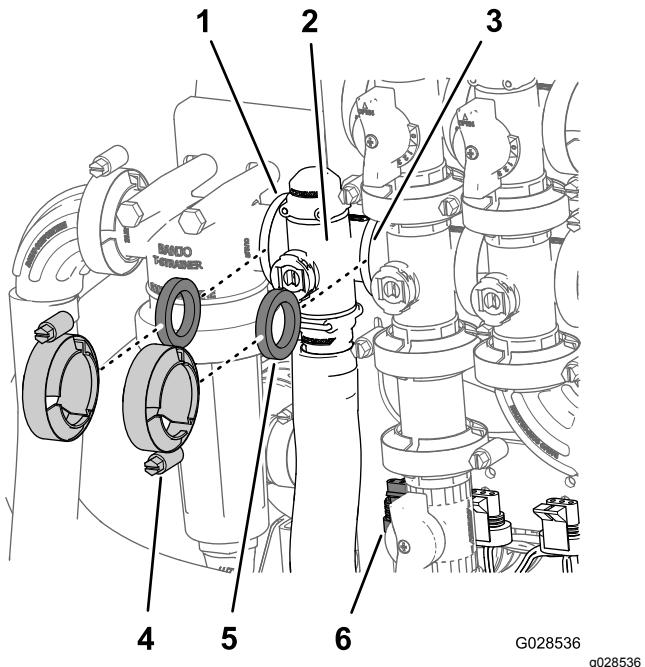

Figure 88
1. Remove clamps and gaskets that secure the manifold for the rate control valve (Figure 88).